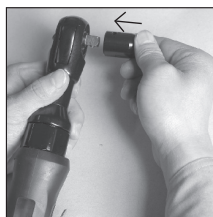

Figure 1
2. Choose the correct impact socket (not provided) as needed and mount it onto the anvil. (See Figure 1)